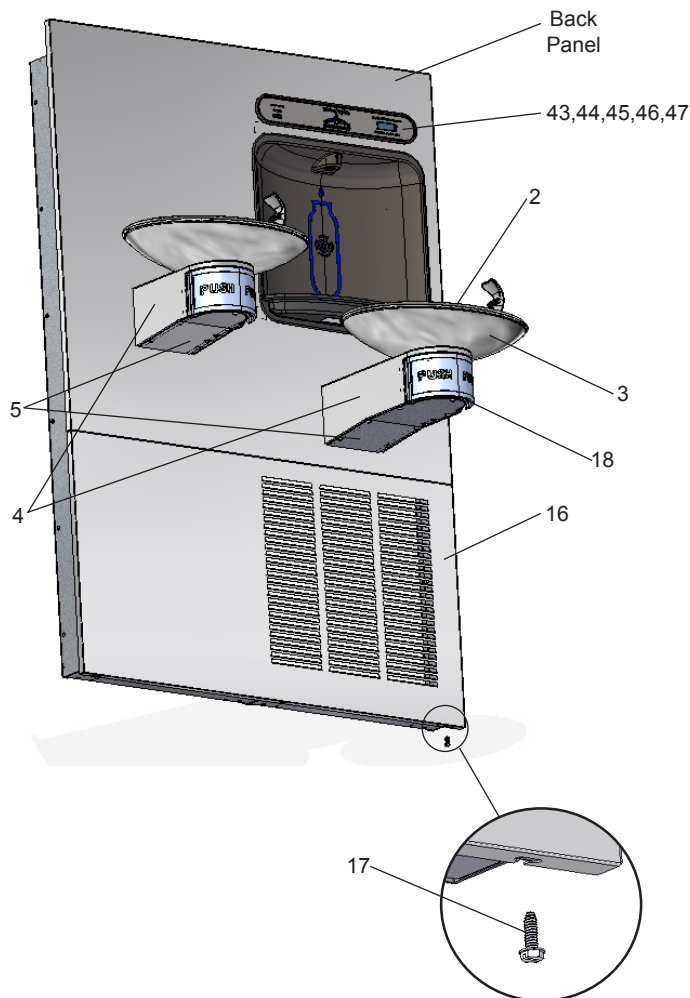

Figure 5 - Lower Panel Installation
16. **Install** the bottom panel, tighten screws (Fig 5).
- 1) To access the program button, remove #10-24 screws, remove bottom cover on lower fountain arm (Fig 5). Reset button is located on mounting bracket.